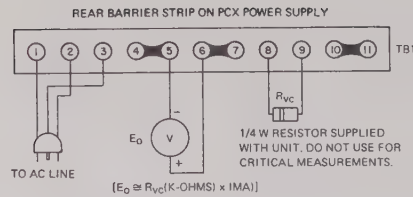

FIG. 2-4 OPERATION CHECK PCX
- PCX MODELS. Apply AC line power and connect a suitable DC voltmeter as shown in FIG. 2-4 below. The output voltage measured on the connected meter will be proportional to the resistance connected across terminals (8) and (9) of the rear barrier strip on the power supply (TB1). Since a (nominal) 1 mA control current is used in PCX power supplies, the output voltage (E_O) will be approximately equal to the number of kilohms used times 1 mA.